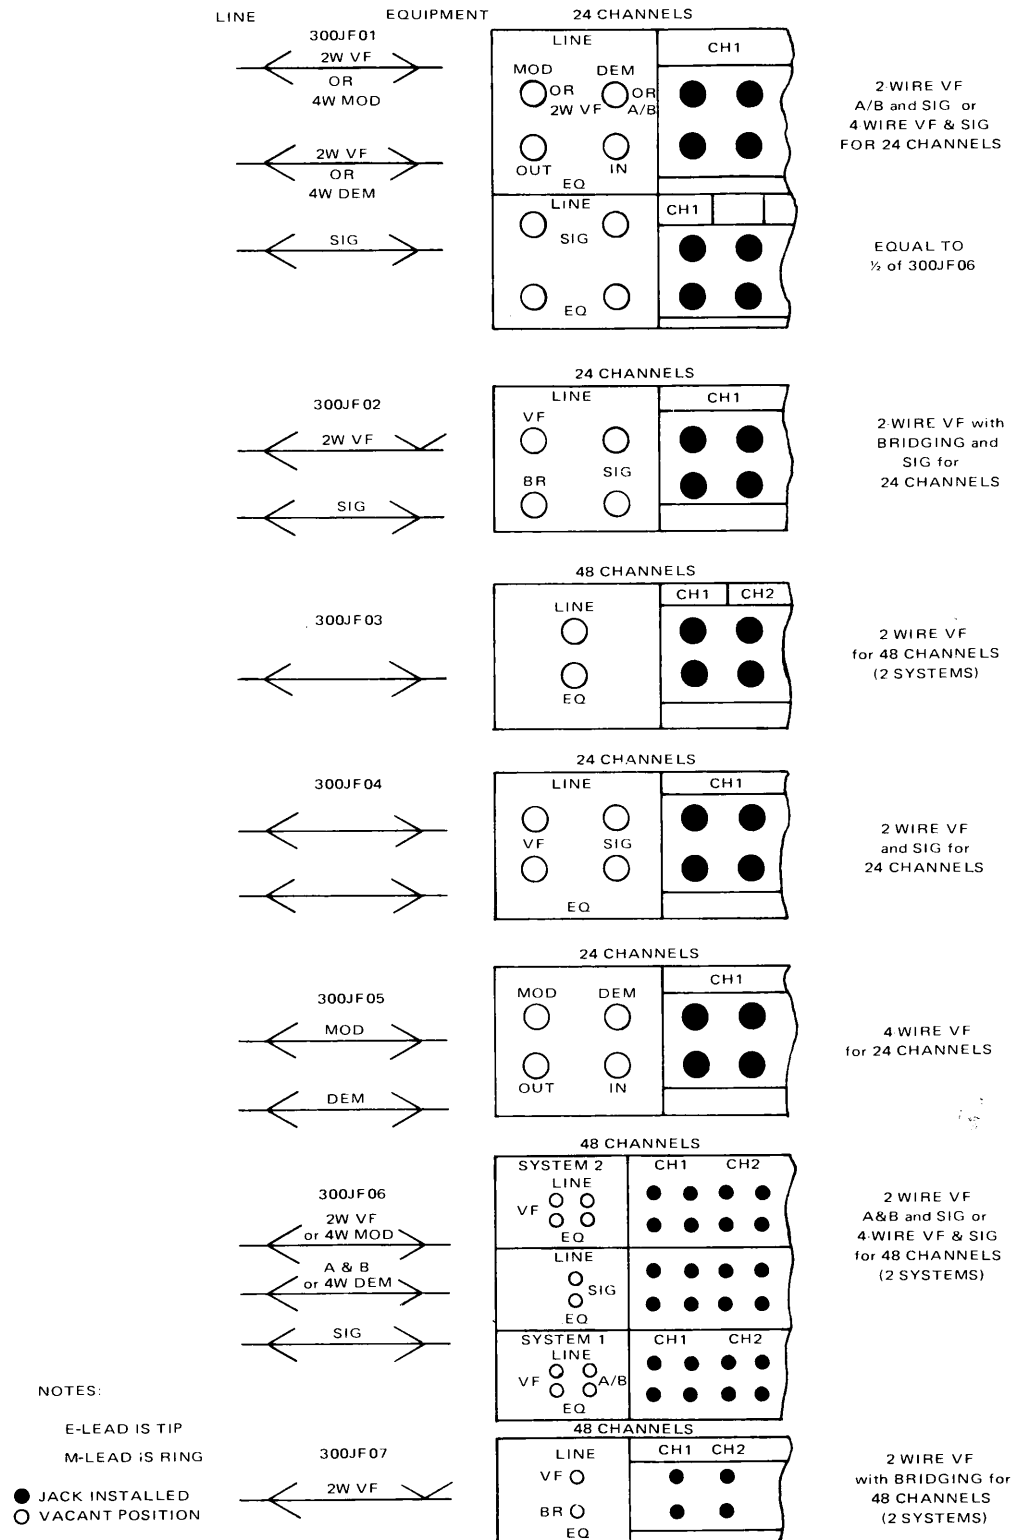

Fig. 10—300JF Series Jack Fields
5.01 See Fig. 10. The Lynch 300JF Series jack fields provide various two-wire, four-wire, and signaling access jack arrangements for one system (24 channels) or two systems (48 channels).